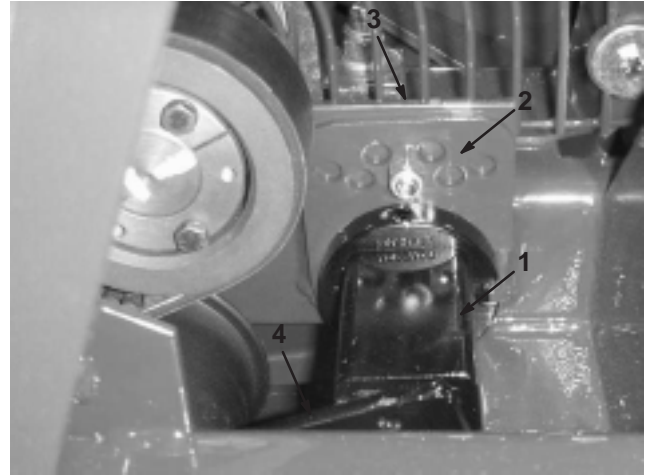

Figure 15
2. Remove capscrew and nut securing tensioner guide to blower frame (Fig. 15). Belt tension will be released when capscrew is removed.